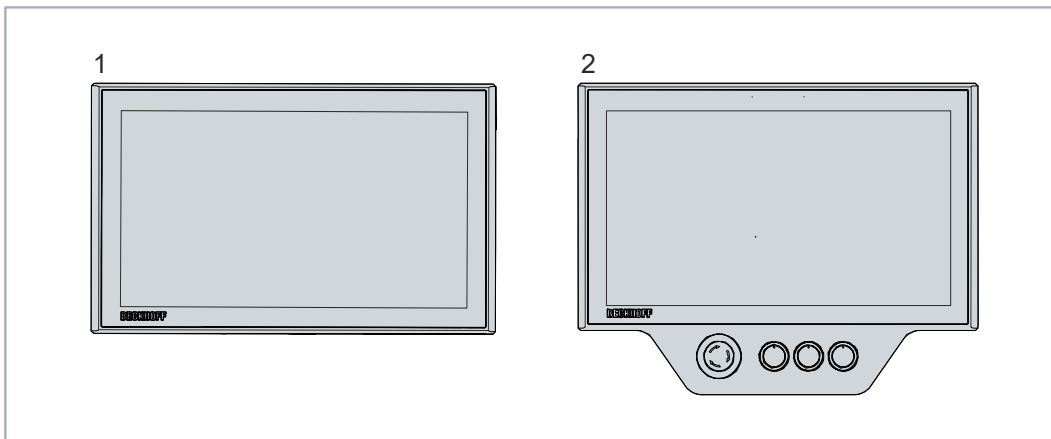

Fig. 1: Panel PC with and without push button extension
For explanations of the push button extension and the functions, refer to the manual C9900-G05x. Figure 1 shows an example of a panel PC without (1) and with (2) push button extension.